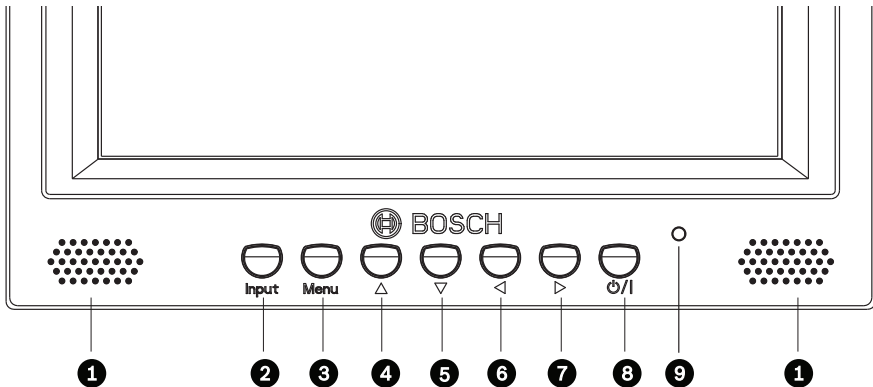

Figure 6.1 Front Panel Buttons
2. Press the Power button to turn on the unit (see *Figure 6.1*).
4. Press the Menu button to activate the main menu selections (see *Figure 6.1*).